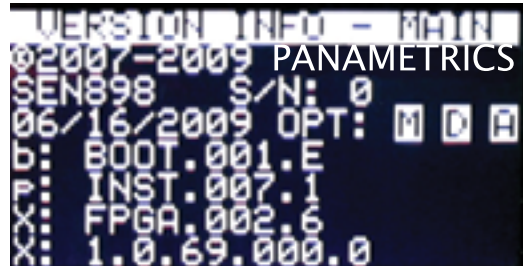

Figure 54: Option card verification screen
3. Press [ENT] again to enter Option Cards. The display should appear similar to Figure 54 below.